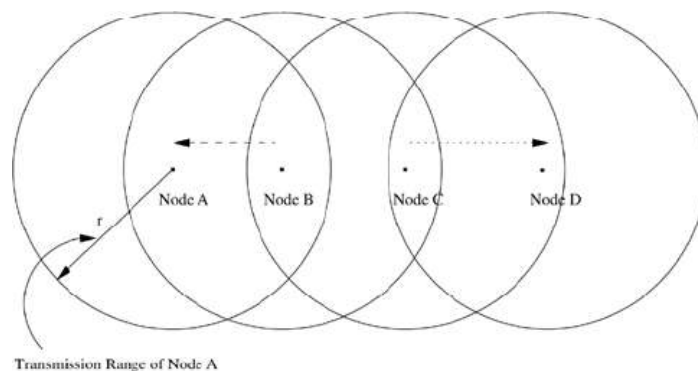

Figure 1.9 Exposed Terminal Problem
- For example, consider the figure 1.9. Here, if a transmission from node B to another node A is already in progress, node C cannot transmit to node D, as it concludes that its neighbor node B, is in transmitting mode and hence should not interfere with the on-going transmission. Thus, reusability of the radio spectrum is affected.